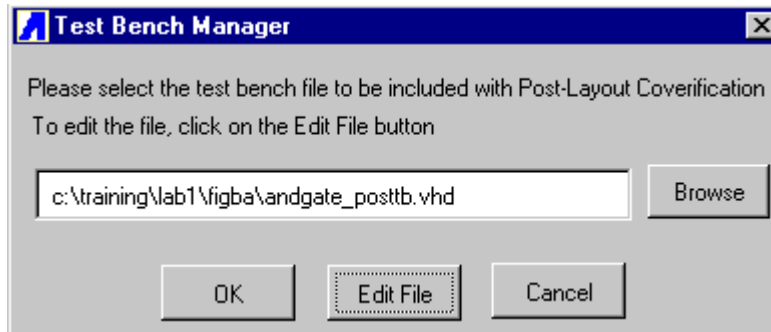

Figure 20 Test Bench Manager
2. The Test Bench Manager window appears, see **Figure 20**.